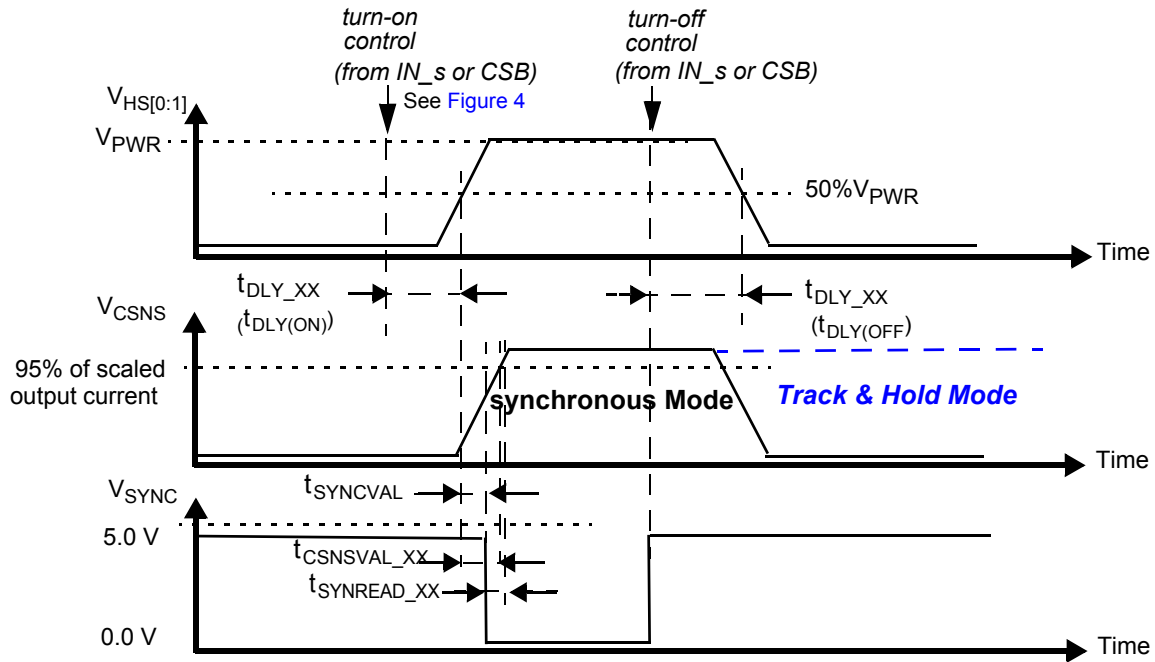

Figure 9. Synchronous and track-and-hold current sensing modes: associated delay and settling times
30. Time required to switch off the channel after detection of overtemperature (OT), overcurrent (OC), SC or UV error (time measured between start of the negative edge on the FSB pin and the falling edge on the output voltage until  $V(\text{HS}[0:1]) = 50\%$  of  $V_{PWR}$ ).
31. Settling time (=  $t_{CSNSVAL\_XX}$ ), SYNC output signal delay (=  $t_{SYNCVAL\_XX}$ ) and Read-out delay (=  $t_{SYNREAD\_XX}$ ) are defined for a stepped load current ( $100\text{ mA} < I(\text{LOAD}) < \text{IOCLX A FOR CSNS\_RATIO\_S} = 1$ , AND  $300\text{ mA} < I(\text{LOAD}) < \text{IOCLX A}_0 \text{ FOR CSNS\_RATIO\_S} = 0$ ). (see Figure 9 and Output current monitoring \(CSNS\))
The CS pin allows independent current monitoring of channel 0 or channel 1 up to the steady-state overcurrent threshold. It can also be used to sense the device temperature. The different functions are selected by setting bits CSNS1\_en and CSNS0\_en to the appropriate value (Table 23). When the CSNS pin is sensed during switch-off in the (optional) track & hold mode (see Figure 9), it outputs the scaled value of the load current as it was just before turn-Off. When several devices share the same pull-down resistor, the CSNS pins of devices the current of which is not monitored must be tri-stated. This is accomplished by setting CSNS0\_en = 0 and CSNS1\_en = 0 in the GCR register (Table 10). Settling time ( $t_{CSNSVAL\_XX}$ ) is defined as the time between the instant at the middle of the output voltage's rising edge ( $HS[0:1] = 50\%$  of  $V_{PWR}$ ), and the instant at which the voltage on the CSNS-pin has settled to  $\pm 5.0\%$  of its final value. Anytime an overcurrent window is active, the CSNS pin is disabled (see Overcurrent detection on resistive and inductive loads). The current and temperature sensing functions are unavailable in Fail-safe mode and in Normal mode when operating without the  $V_{DD}$  supply voltage. In order to generate a voltage output, a pull-down resistor is required ( $R(CSNS) = 1.0\text{ k}\Omega$  typ. and  $470 < R(CSNS) < 10\text{ k}$ ). When the current sense resistor connected to the CSNS pin is disconnected, the CSNS voltage is clamped to  $V_{CL(CSNS)}$ . The CSNS pin can source currents up to about 5.6 mA.
To synchronize current sensing with an external process, the SYNC signal can be connected to a digital input of an external MCU. SYNC is asserted logic low when the current sense signal is accurate and ready to be read. The current sense signal on the CSNS pin has the specified accuracy  $t_{SYNCREAD\_XX}$  seconds after the falling edge on the SYNC pin (Figure 9) and remains valid until a rising edge is generated. The rising edge that is generated by the SYNC pin at the turn-OFF instant (internal or external) may also be used to implement synchronization with the external MCU. Parameter  $t_{SYNCVAL\_XX}$  is defined as the time between the instant at the middle of the output-voltage rising edge ( $HS[0:1] = 50\%$  of  $V_{PWR}$ ), and the instant at which the voltage on the SYNC-pin drops below 0.4 V ( $V_{SOL}$ ). The SYNC pins of different devices can be connected together to save  $\mu$ -controller input channels. However, in this configuration, the CSNS function of only one device should be active at a time. Otherwise, the MCU does not determine the origin of the SYNC signal. The SYNC pin is open drain and requires an external pull-up resistor to VDD.